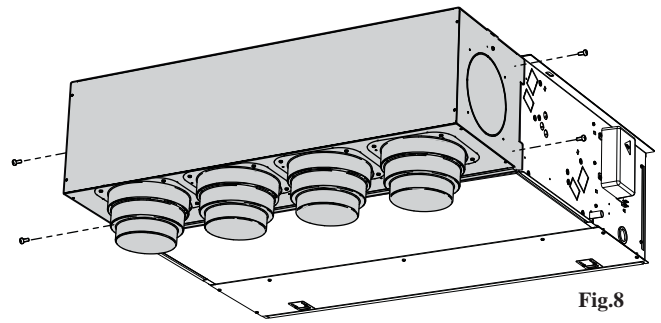

Fig.8
- Use the four screws provided to fasten the PM_V accessory to the unit flow vent (fig.8).